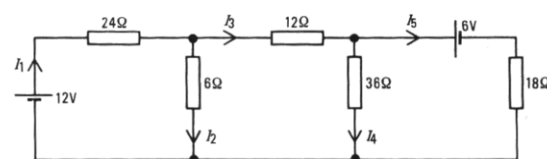

Fig. 3
- (b) Use the superposition principle to calculate the currents in the circuit shown in Fig. 3.